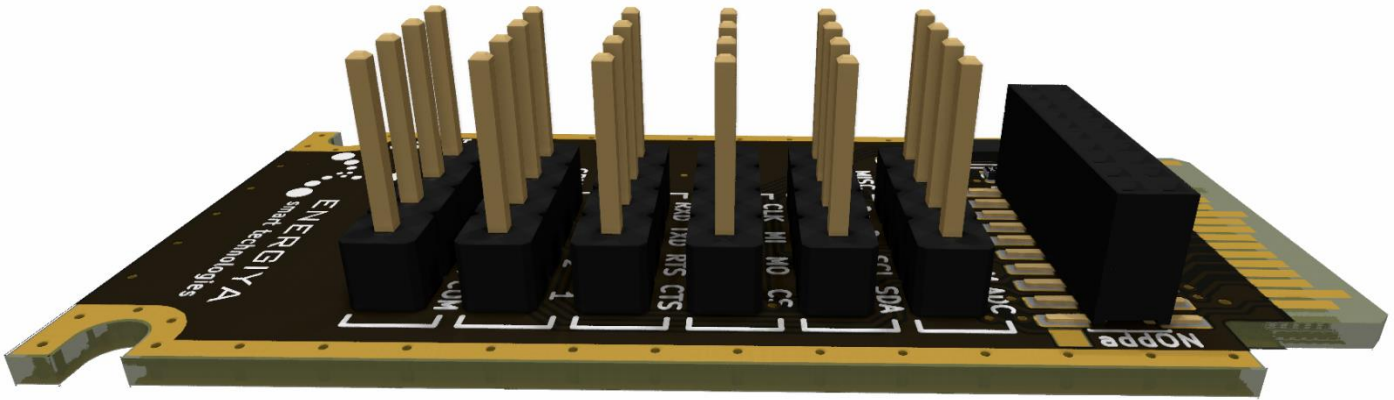

fig. 3
Note that mounting connectors that are too high will prevent you from mounting an addON card or mounting a Dock card inside the FX30(S) IoT gateway. Figure 3 shows an example with the connector mounted.